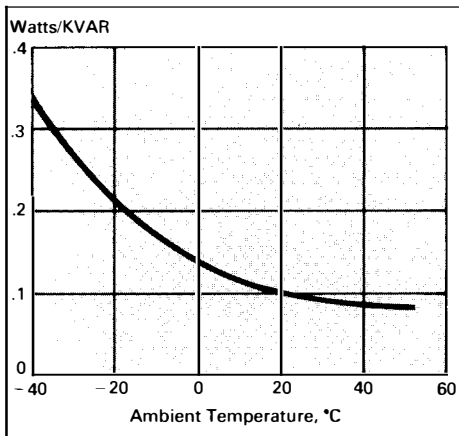

Figure 1 - Capacitor Losses Vs. Temperature
- The length of the current path is shortened which reduces resistance losses significantly (Fig. 1).